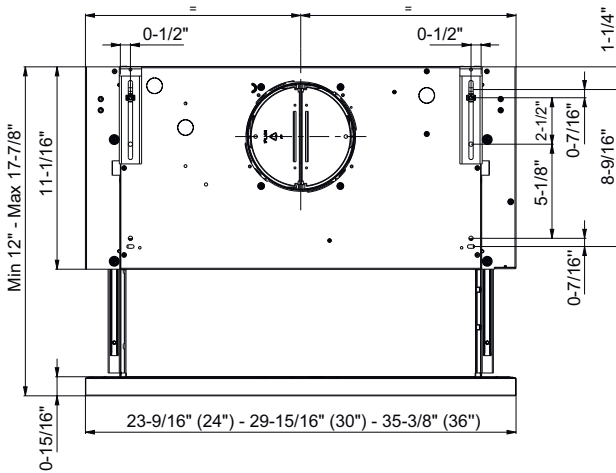

Fig.1
2. Position template B on the wall cabinet, bearing in mind the measurements indicated in Figs. 1 and 2 and the minimum distance from the cooktop.
1 - Check the measurements indicated in Figs. 1 and 2 and the minimum distance from the cooktop, before installing the hood on the support shelf.